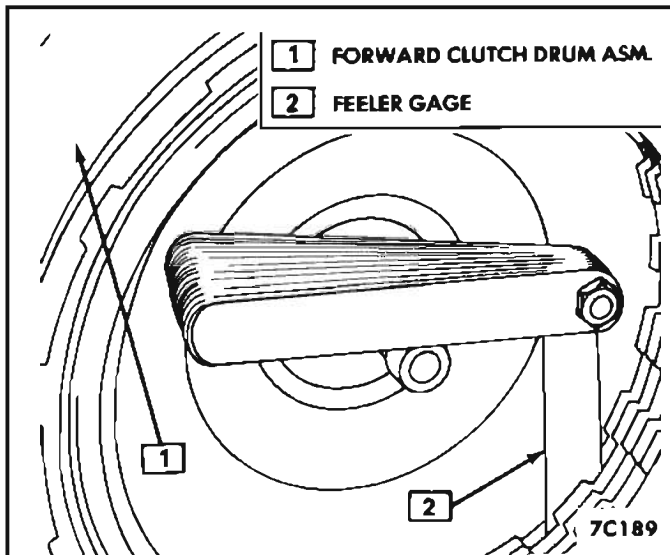

Figure 68 Checking Pressure Plate Clearance
5. Install forward clutch pressure plate and retaining ring. Using a feeler gage check clearance between forward clutch pressure plate and faced plate. See *Figure 68*.